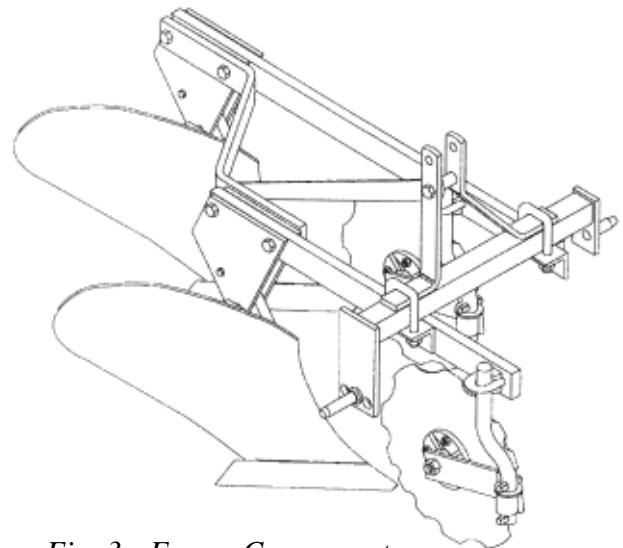

Fig. 3 - Frame Components
3.3 OPTIONAL COULTER KIT ASSY. (SEE FIG. 3)